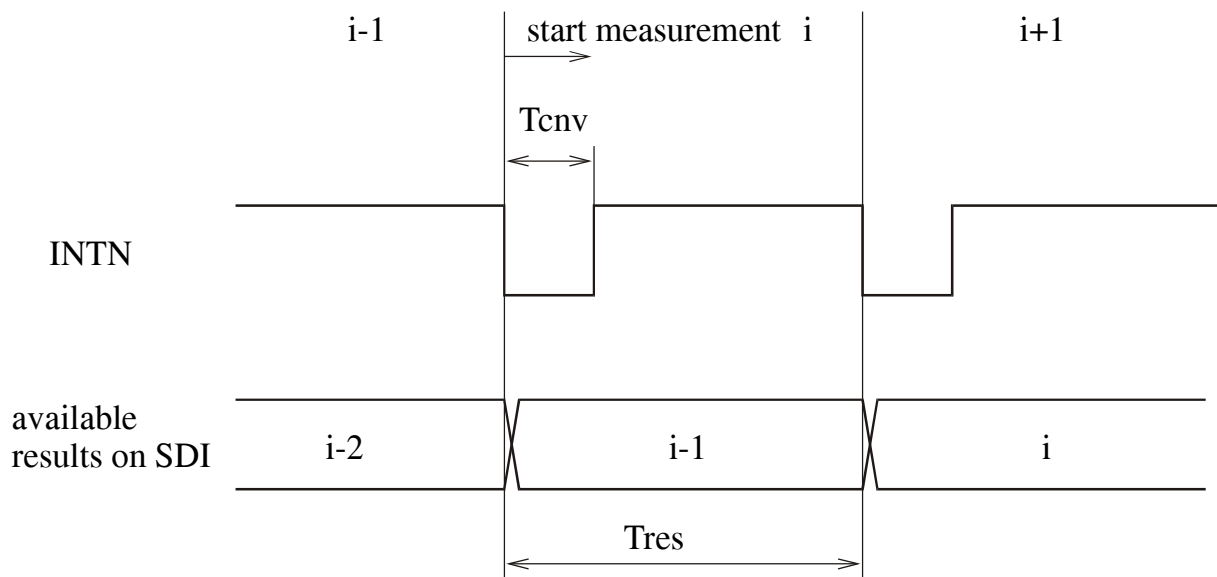

Figure 5: INTN pin in modes 1 and 2
- ²⁾ In measurement modes (MMS and MMD) the INTN pin is used to synchronize the SDI bus operations (see figure 5).